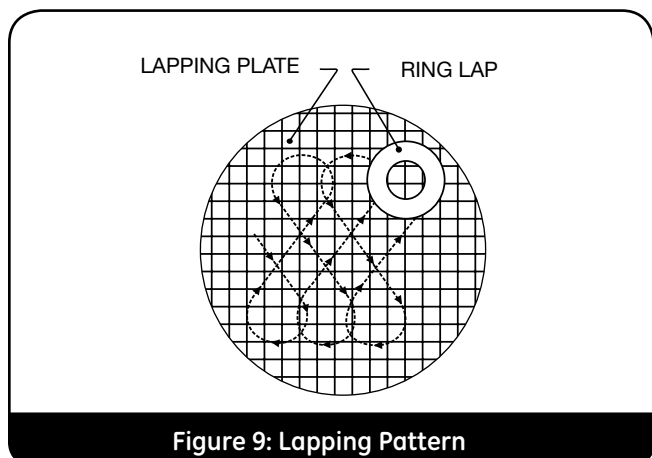

Figure 9: Lapping Pattern
2. Always use a fresh lap. If signs of wearing (out of flatness) are evident, recondition the lap. Reconditioning of laps is accomplished by lapping them on a flat lapping plate. The lapping should be done with a figure-eight motion as indicated in Figure 9. To assure the best results when lapping seats, the laps should be reconditioned after each usage.
6. Lap, using an eccentric, or figure-eight motion, in all directions, while at the same time, applying uniform pressure and rotating the lap slowly (see Figure 9).